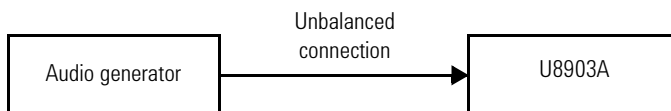

Figure 3-6 Audio generator to U8903A connection for distortion verification
- 1 Connect the audio generator to the U8903A input channel to be tested via the Unbalanced connection as shown in Figure 3-6. Preset both the U8903A and audio generator.